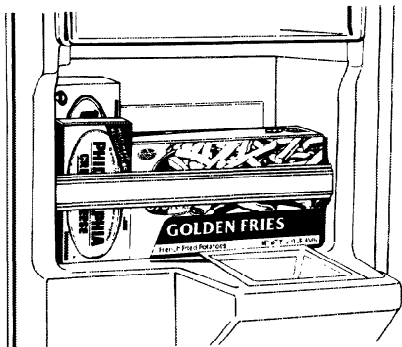
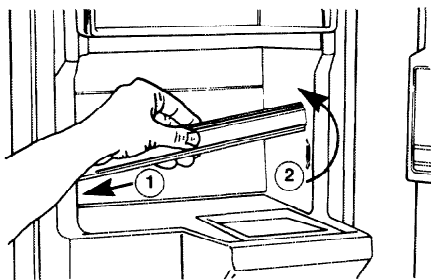

FIGURE 71
FIGURE 72
**Retainer Bar** is located above the ice chute. The bar is removable for easy cleaning. See Figure 71. Pull the bar left or right and up to remove. See Figure 72.